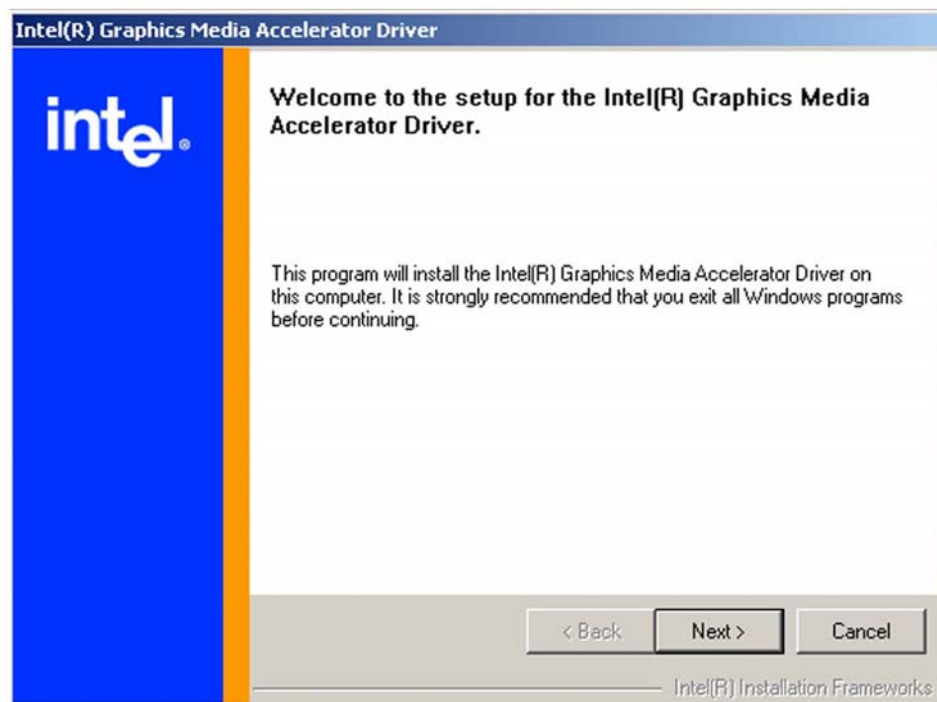

Figure 6-7: Intel® Graphics Media Accelerator Driver Welcome Screen
Step 2: The **InstallShield Wizard Welcome** screen appears (**Figure 6-7**).